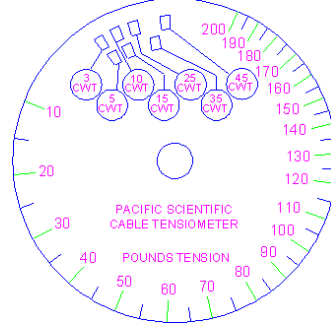

Figure 2
- a. **TYPE C8** – To Pre-set Dial: Rotate knurled rim of pre-set dial until the pointer is directly over the white square corresponding to the cable diameter. (See Fig. 2). With the dial properly aligned with the correct cable size, repeat step 1 b.
- a. **TYPE C9** – To Pre-set Dial: Rotate knurled rim of pre-set dial until the pointer is directly over the white square corresponding to the cable diameter. (See Fig. 2). With the dial properly aligned with the correct cable size, repeat step 1 b.